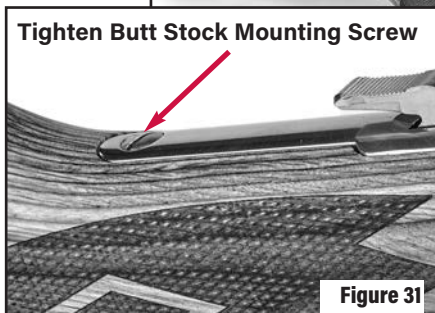

Figure 31
9. Insert and tighten the butt stock mounting screw so that it is snug. Do not over tighten. See Figure 31.